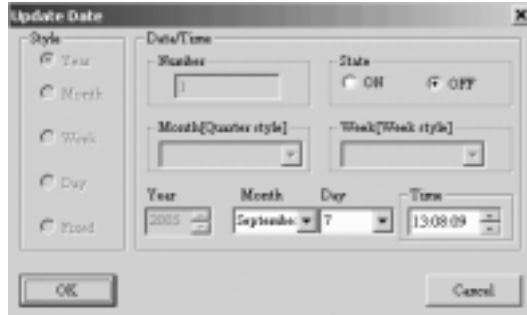

Fig. 3.21 Inserting Time
- ※ Insert: When you need to insert a time in the existing time setting combination, please click INSERT and a dialogue box will appear, as shown in Fig. 3.21.